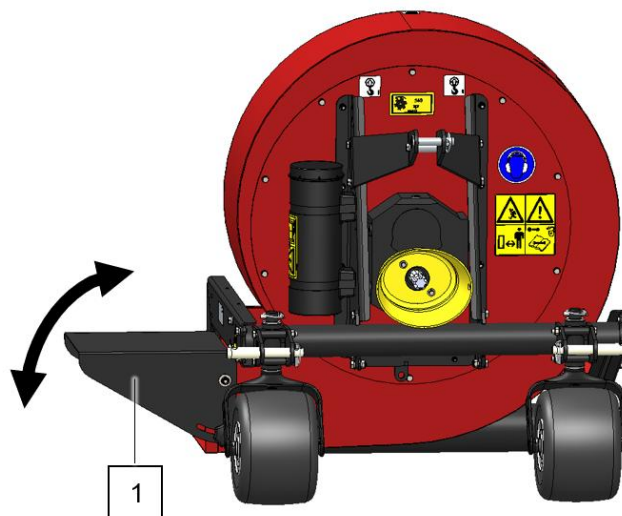

Fig. 9
Instead of the reverse spout, the supplied outlet flap can also be used (1). Unlike the reverse spout, airflow is now only possible on one side of the machine. However, the airflow in the vertical plane can be regulated by adjusting the outlet flap (Fig. 9).